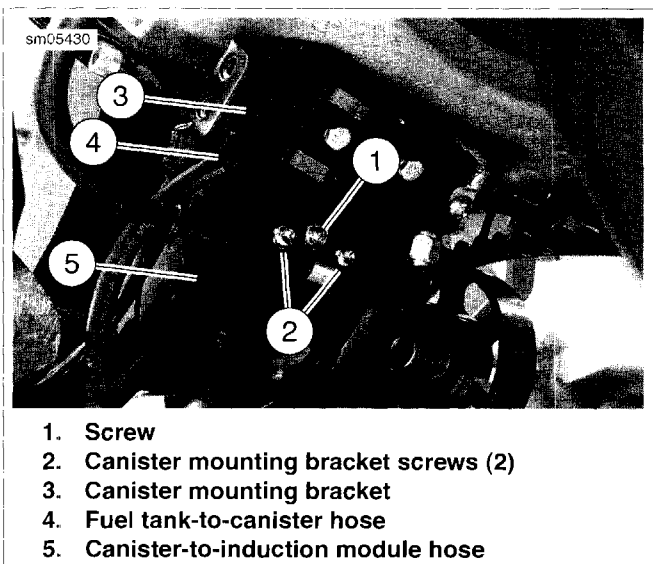

Figure 4-96. Charcoal Canister Mount: XR Models
1. See Figure 4-96. Route both hoses up past canister mount and between rear fork pivot point and rear end of crankcase as shown.